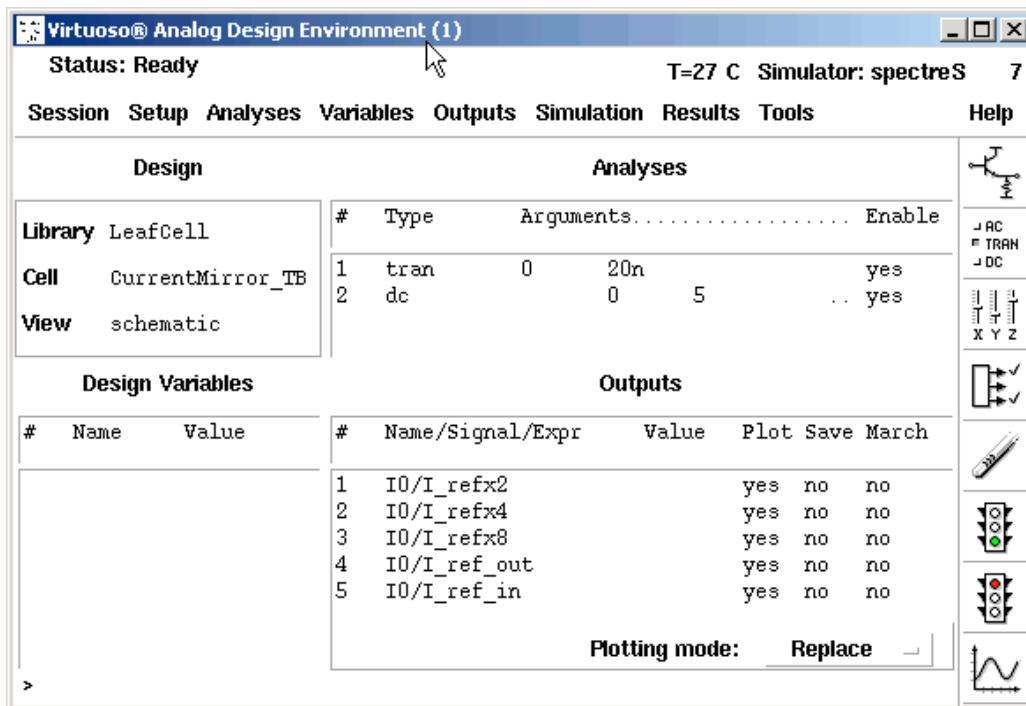

Figure 120: Setting up the Affirma to simulate the PF.
19. Now open the Analog Environment window (Figure 120) again. Go to *Session...Load State* to load *State1*, which is the one we save earlier in the tutorial.